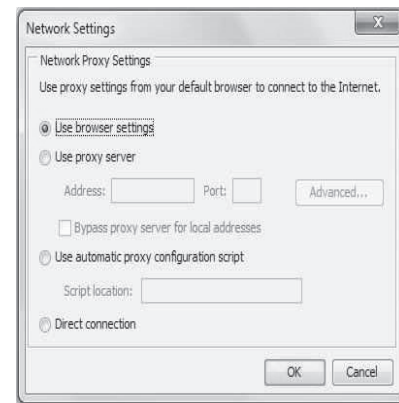

Fig. 91 — Network Settings
- Network settings: In the Java Control Panel, click Network Settings. Select a direct connection to bypass the proxy server or select the automatic configuration script. See Fig. 91.